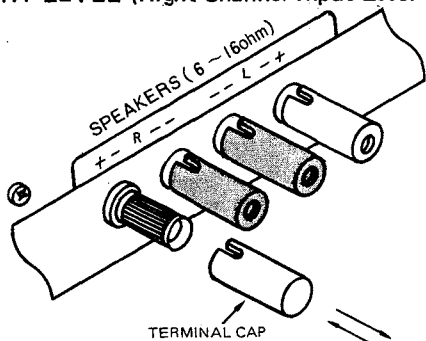

Fig. 4
**Note:** Use the terminal cap for protecting speaker terminals. Insert as shown in the Figure 4, after speaker cords are connected. A high voltage is generated at speaker terminals connected to the POA-3000Z high-power amplifier. Always use the terminal cap to prevent accidental contact. Touching exposed portions of terminals and speaker cords may be dangerous. This will also prevent impact damage to the terminals.